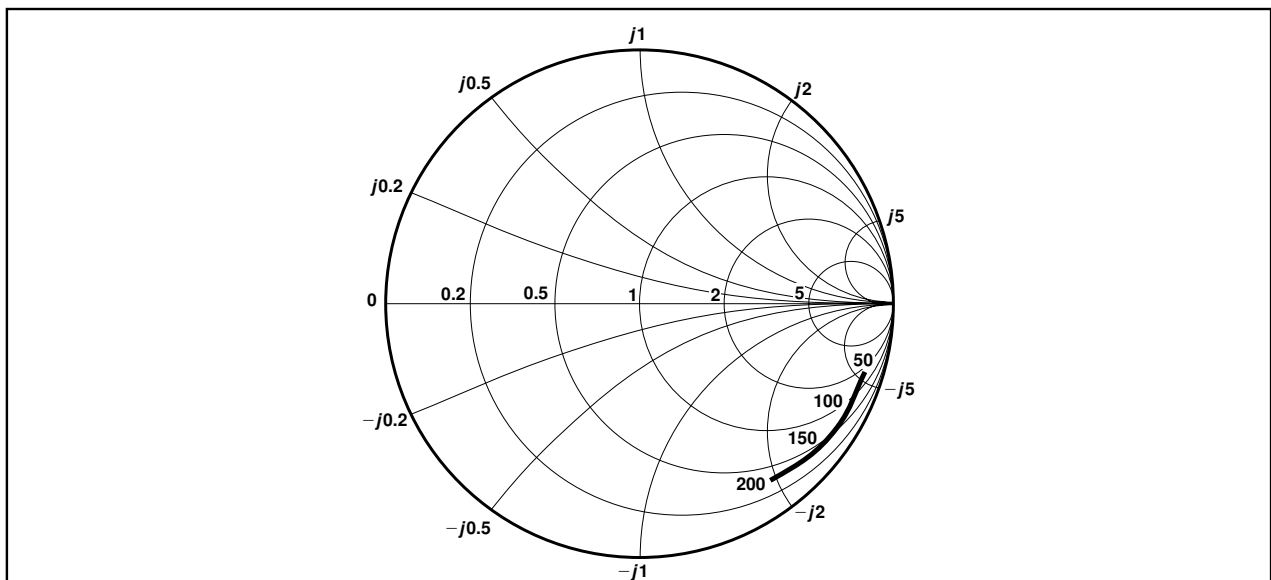

Fig. 7 Typical input impedance. Test conditions: Supply Voltage = 5.0V, Ambient Temperature = 25°C. Frequencies in MHz, impedances normalised to 50Ω.
6. The input impedance of the SP8690/1 varies as a function of frequency. See Fig. 7.